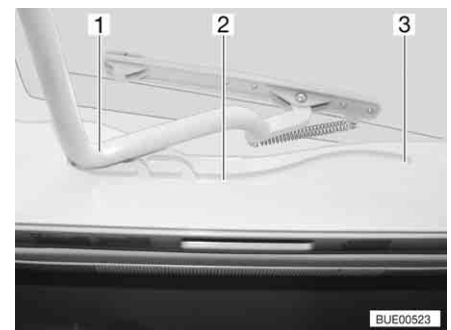

Fig. 111 Heki skylight, guide
- Pull the bar (Fig. 111,1) in the guides (Fig. 111,2) to the rearmost position (Fig. 111,3).
- Use both hands to push the bar (Fig. 111,1) slightly upwards.
- Pull the bar in the guides (Fig. 111,2) to the desired position.